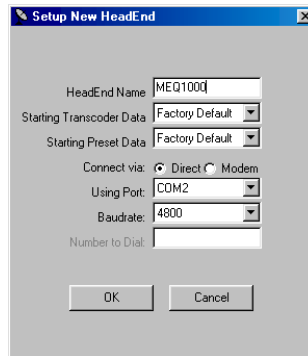

Figure 2
3) Click on the 'Setup New Headend' button. This will bring up the screen shown in **FIGURE 2**. Type in the name of the headend in the 'HeadEnd Name' field. In this case we have typed in MEQ1000A. Then select the 'PC Baudrate' and 'Using Port'. If you intend to use a modem instead of a direct connection, make that selection using the 'Connect via:' radio buttons, and type in the phone number of the desired modem in the 'Number to dial' window. Then click 'OK'.